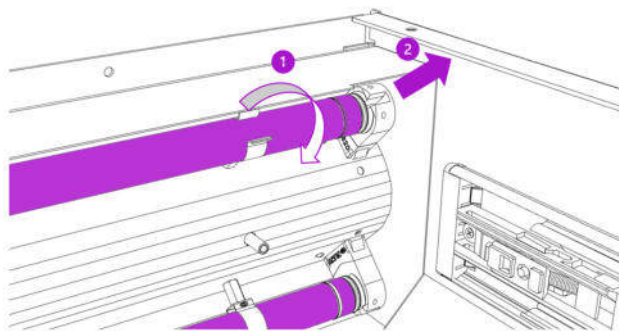

Abb. 17
3. Turn the UV-C lamps in direction of arrow as shown in Fig. 17 (1) until you hear a clicking sound. Remove UV-C lamps in direction of arrow (2). Dispose of the UV-C lamps (see 7, page 30)